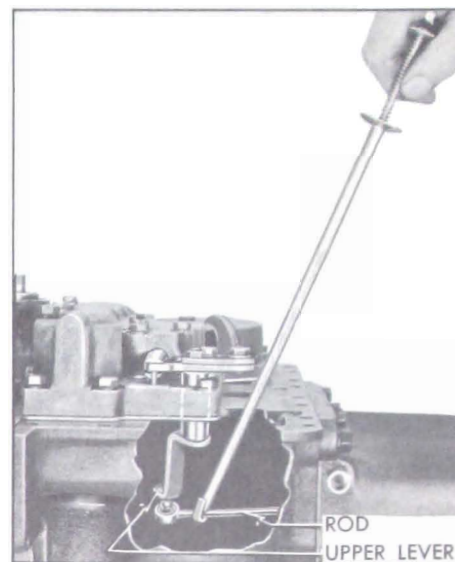

Figure 5-126—Connecting Valve Operating Rod to Upper Lever
6. Using Linkage Hook-Up Finger J-2591, position the socket of valve operating rod under the ball of valve upper operating lever and pull upward until ball snaps into the socket. See Figure 5-126.